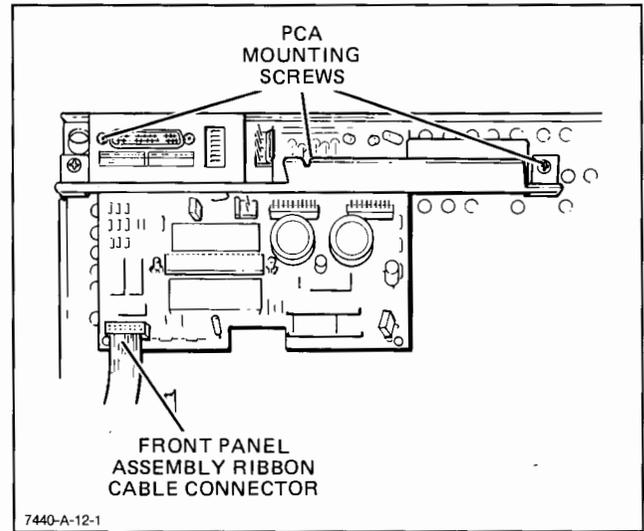

Figure 6-3. Main PCA Removal, Detail A
- d. Disconnect the front panel assembly ribbon cable connector from the left front side of the Main FCA. See Figure 6-3, Detail A.
- f. Remove the Graphics Enhancement Cartridge (GEC) by rotating the GEC release handle up and lifting the cartridge clear of the base assembly. See Figure 6-3, Detail B.